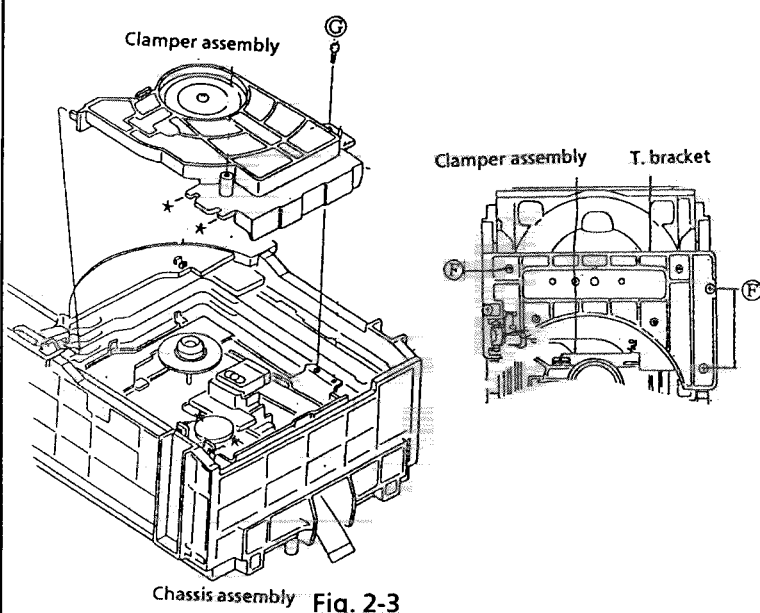

Fig. 2-3
3. Remove 3 screws ⑥ securing T.Bracket. (See Fig. 2-3.)
4. Remove a screw ④ securing center of the clamper ass'y. (See Fig. 2-3.)